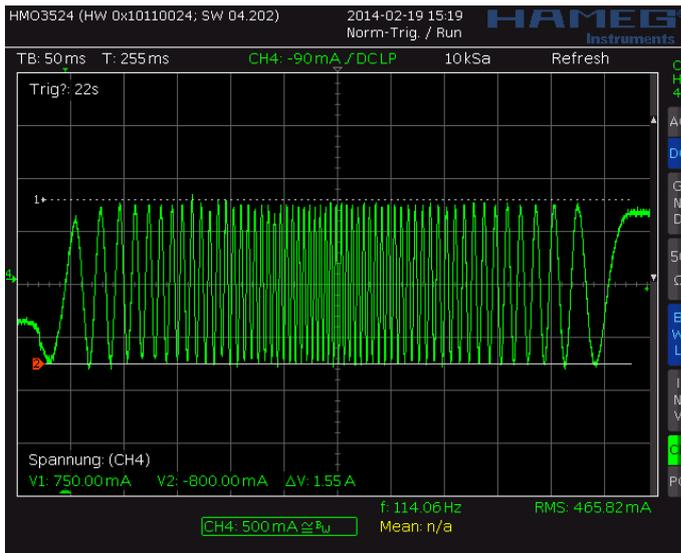
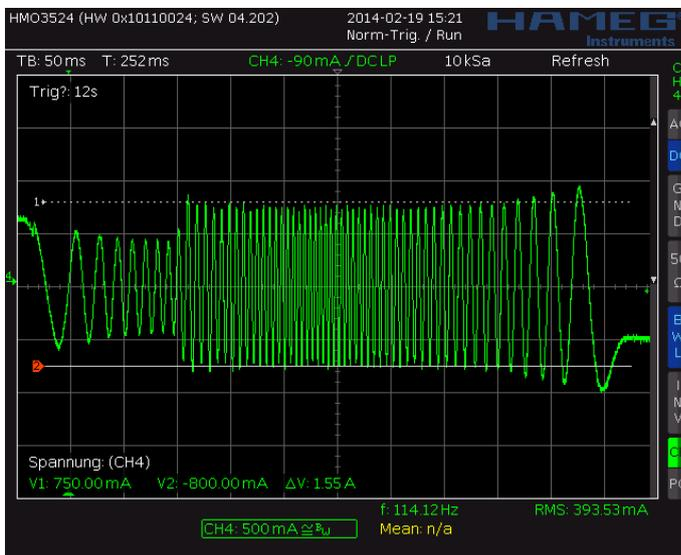
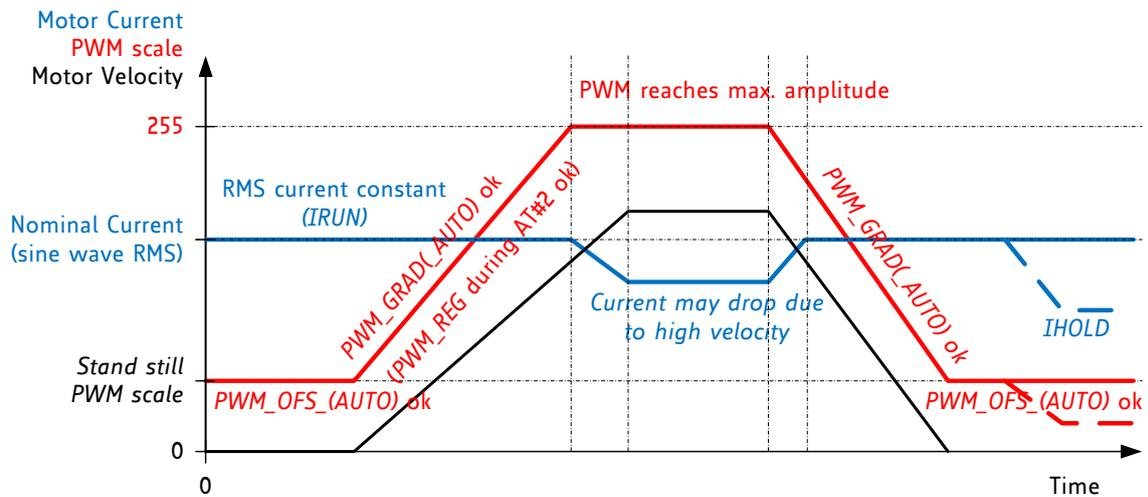

Figure 7.3 Scope shot: good setting for PWM_REG
Figure 7.4 Scope shot: too small setting for PWM_REG during AT#2
Figure 7.5 Successfully determined PWM_GRAD(AUTO) and PWM_OF(S)_AUTO
In StealthChop voltage PWM mode, the autoscaling function ($pwm_autoscale = 1$, $pwm_auto_grad = 1$) regulates the motor current to the desired current setting. Automatic scaling is used as part of the automatic tuning process (AT), and for subsequent tracking of changes within the motor parameters. The driver measures the motor current during the chopper on time and uses a proportional regulator to regulate PWM_SCALE_AUTO in order match the motor current to the target current. PWM_REG is the proportionality coefficient for this regulator. Basically, the proportionality coefficient should be as small as possible in order to get a stable and soft regulation behavior, but it must be large enough to allow the driver to quickly react to changes caused by variation of the motor target current (e.g. change of $VREF$). During initial tuning step AT#2, PWM_REG also compensates for the change of motor velocity. Therefore, a high acceleration during AT#2 will require a higher setting of PWM_REG . With careful selection of homing velocity and acceleration, a minimum setting of the regulation gradient often is sufficient ($PWM_REG=1$). PWM_REG setting should be optimized for the fastest required acceleration and deceleration ramp (compare Figure 7.3 and Figure 7.4). The quality of the setting PWM_REG in phase AT#2 and the finished automatic tuning procedure (or non-automatic settings for PWM_OFS and PWM_GRAD) can be examined when monitoring motor current during an acceleration phase Figure 7.5.